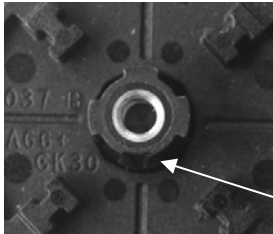

Fig. 1
1. Rotate the valve shoe to close the required port the shoe position is indicated by the machined point (fig. 1) of the 3 points of the end of the valve stem.
5. Fit the valve stem extender onto the valve, paying attention to the position of the stem shaft. The 1/2 flat, which indicates the closed side of the valve body (fig. 2) goes on the side of the machined point (fig. 1) of the 3 points of the end of the valve stem.